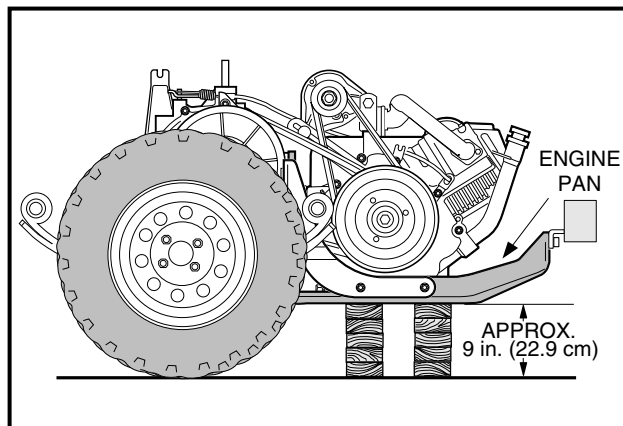

Figure 16-31 Position Powertrain
15. Place blocks under the engine pan so they will completely support the engine and keep it level to the floor (**Figure 16-31, Page 16-14**). See following **NOTE**.